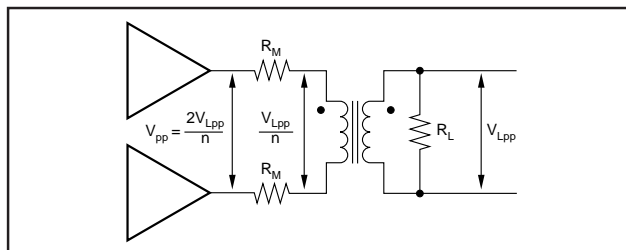
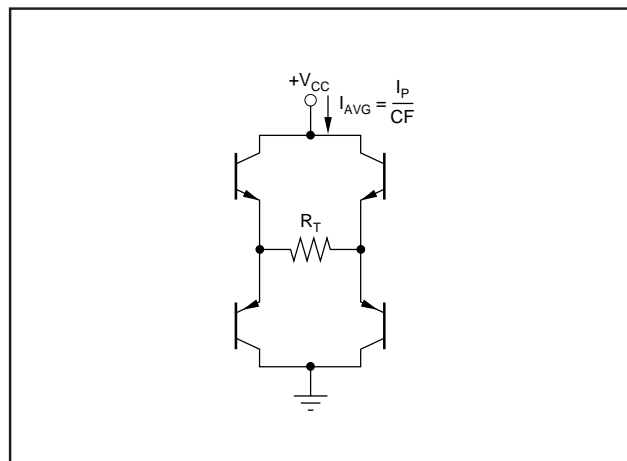

FIGURE 8. Driver Peak Output Voltage.
FIGURE 10. Output Stage Power Model.
with V_{PP} as defined in Equation 7, and R_M as defined in Equation 2 and shown in Figure 8.
The total internal power dissipation for the OPA2677 in an xDSL line driver application will be the sum of the quiescent power and the output stage power. The OPA2677 holds a relatively constant quiescent current versus supply voltage—giving a power contribution that is simply the quiescent current times the supply voltage used (the supply voltage will be greater than the solution given in Equation 10). The total output stage power may be computed with reference to Figure 10.
The two output stages used to drive the load of Figure 8 can be seen as an H-Bridge in Figure 10. The average current drawn from the supply into this H-Bridge and load will be the peak current in the load given by Equation 8 divided by the crest factor (CF) for the xDSL modulation. This total power from the supply is then reduced by the power in R_T to leave the power dissipated internal to the drivers in the four output stage transistors. That power is simply the target line power used in Equation 3 plus the power lost in the matching elements (R_M). In the examples here, a perfect match is targeted giving the same power in the matching elements as in the load. The output stage power is then set by Equation 11.